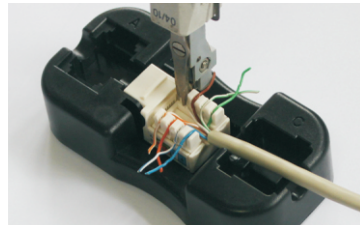

Figure 4- Impact tool being used on cable
2. After the keystone Jack has been placed securely inside the punch holder place the cable inside the keystone Jack and use an Impact tool to stamp down and connect the cable wires on the cable IDC.(Figure 4)